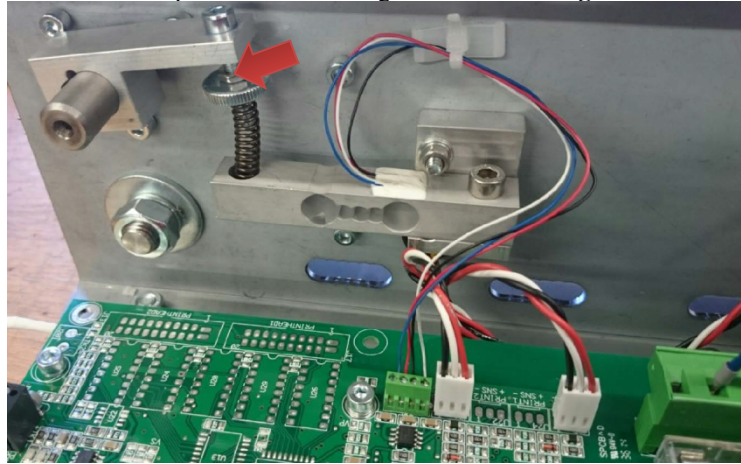

Figure 5
7. After adjusting the pressure, make sure to secure the screw again by fixing the small nut on the top of the aluminum grooved screw. **Fig. 5**